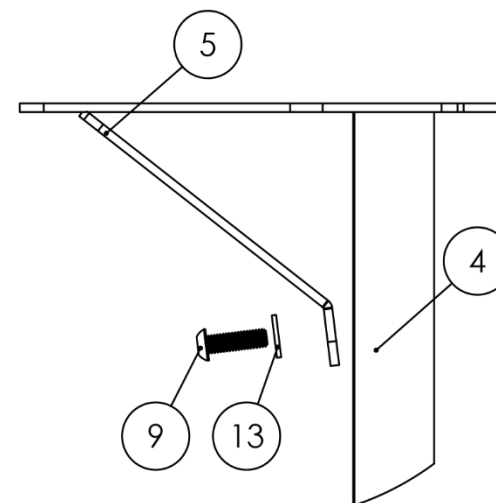

Figure 13
8. **Attach the Crossbar Gussets to the Legs.** Grab the (4) Crossbar Gusset Assemblies (Item No. 5) and notice that their angular projection parallels the inside of the Legs (Item No. 4). As shown in Figure 13, slide this end into the Legs and secure the parts by threading a 1.25" Button Head Cap Screw (Item No. 9) and a Metal Washer (Item No. 13) into the concentric holes.